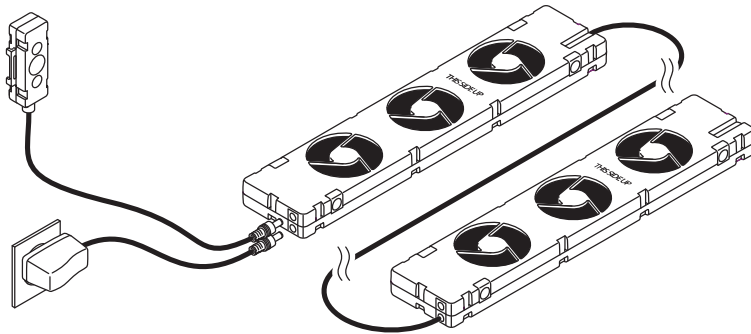

Fig. 4 - Connect additional SpeedComforts (B1).
6. On long radiators, connect additional **SpeedComforts** (B1) with the **30cm connection cables** (B2) (see fig. 4). Multiple **SpeedComforts** (B1) (up to 20) can be connected to one **power adapter** (A1). Additional **temperature sensors** (A2) are not required.